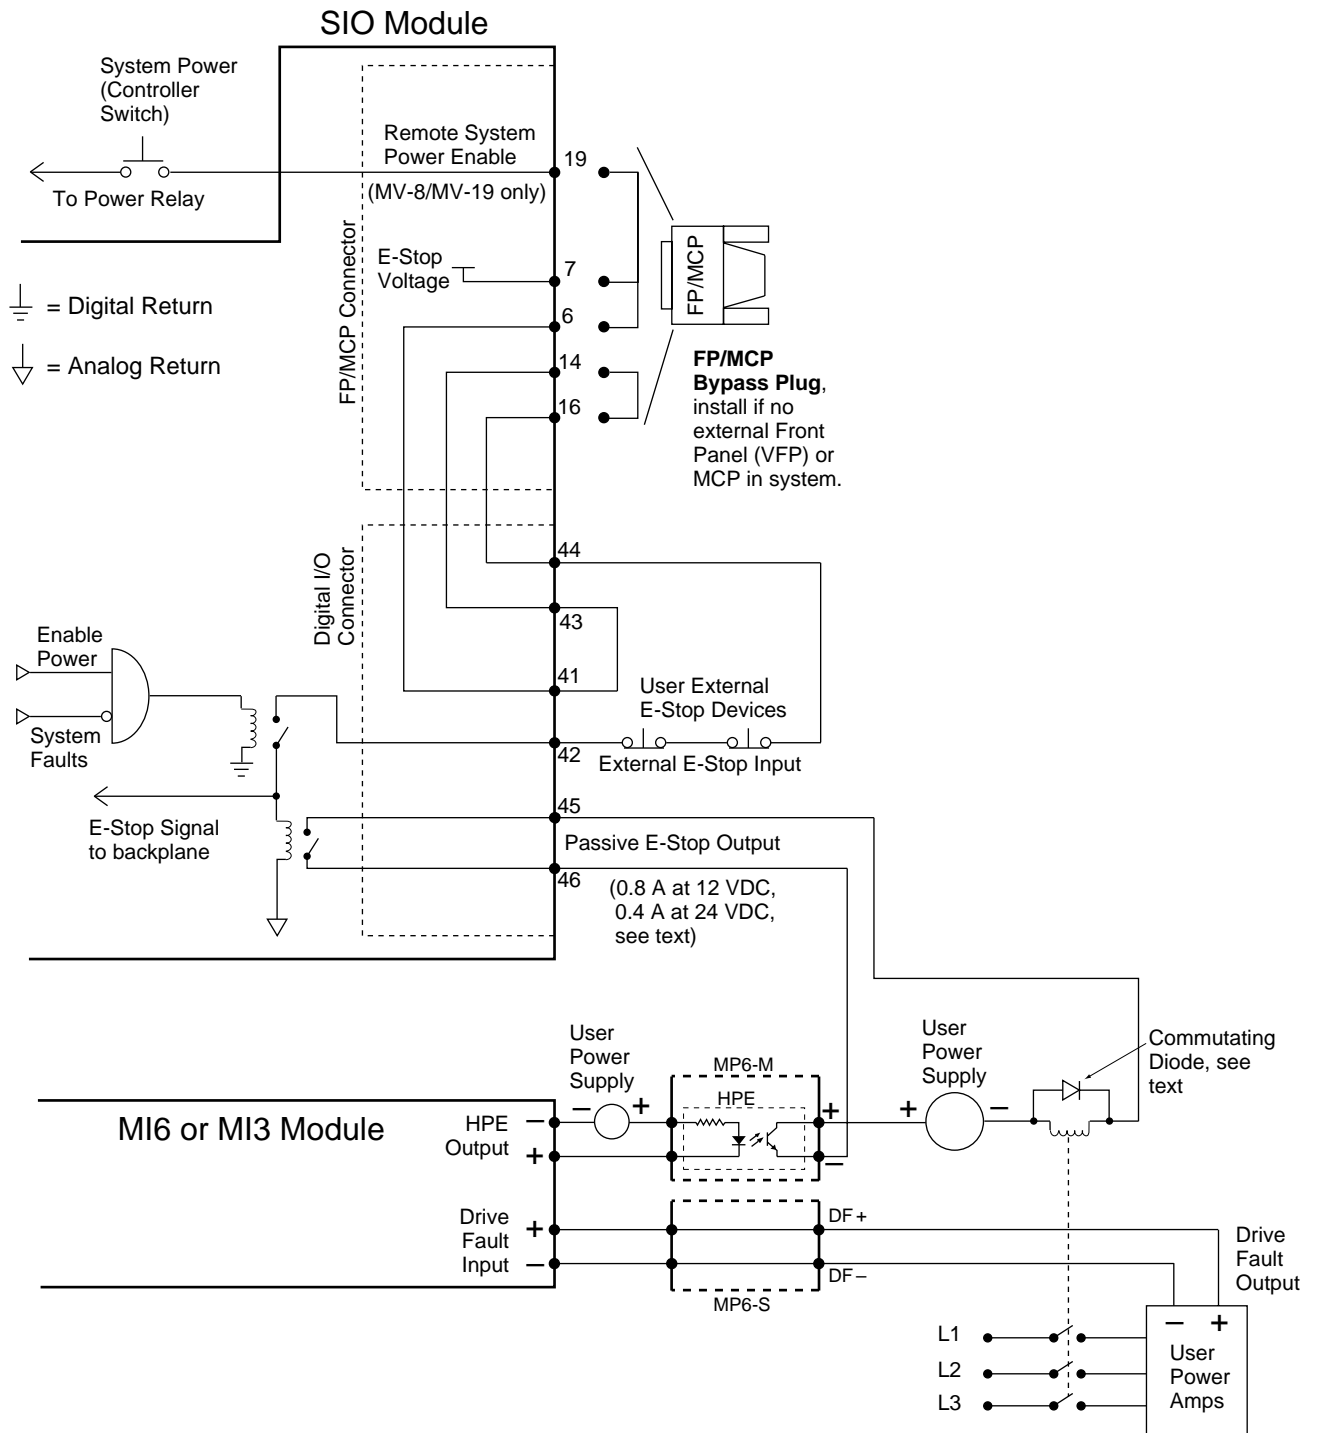
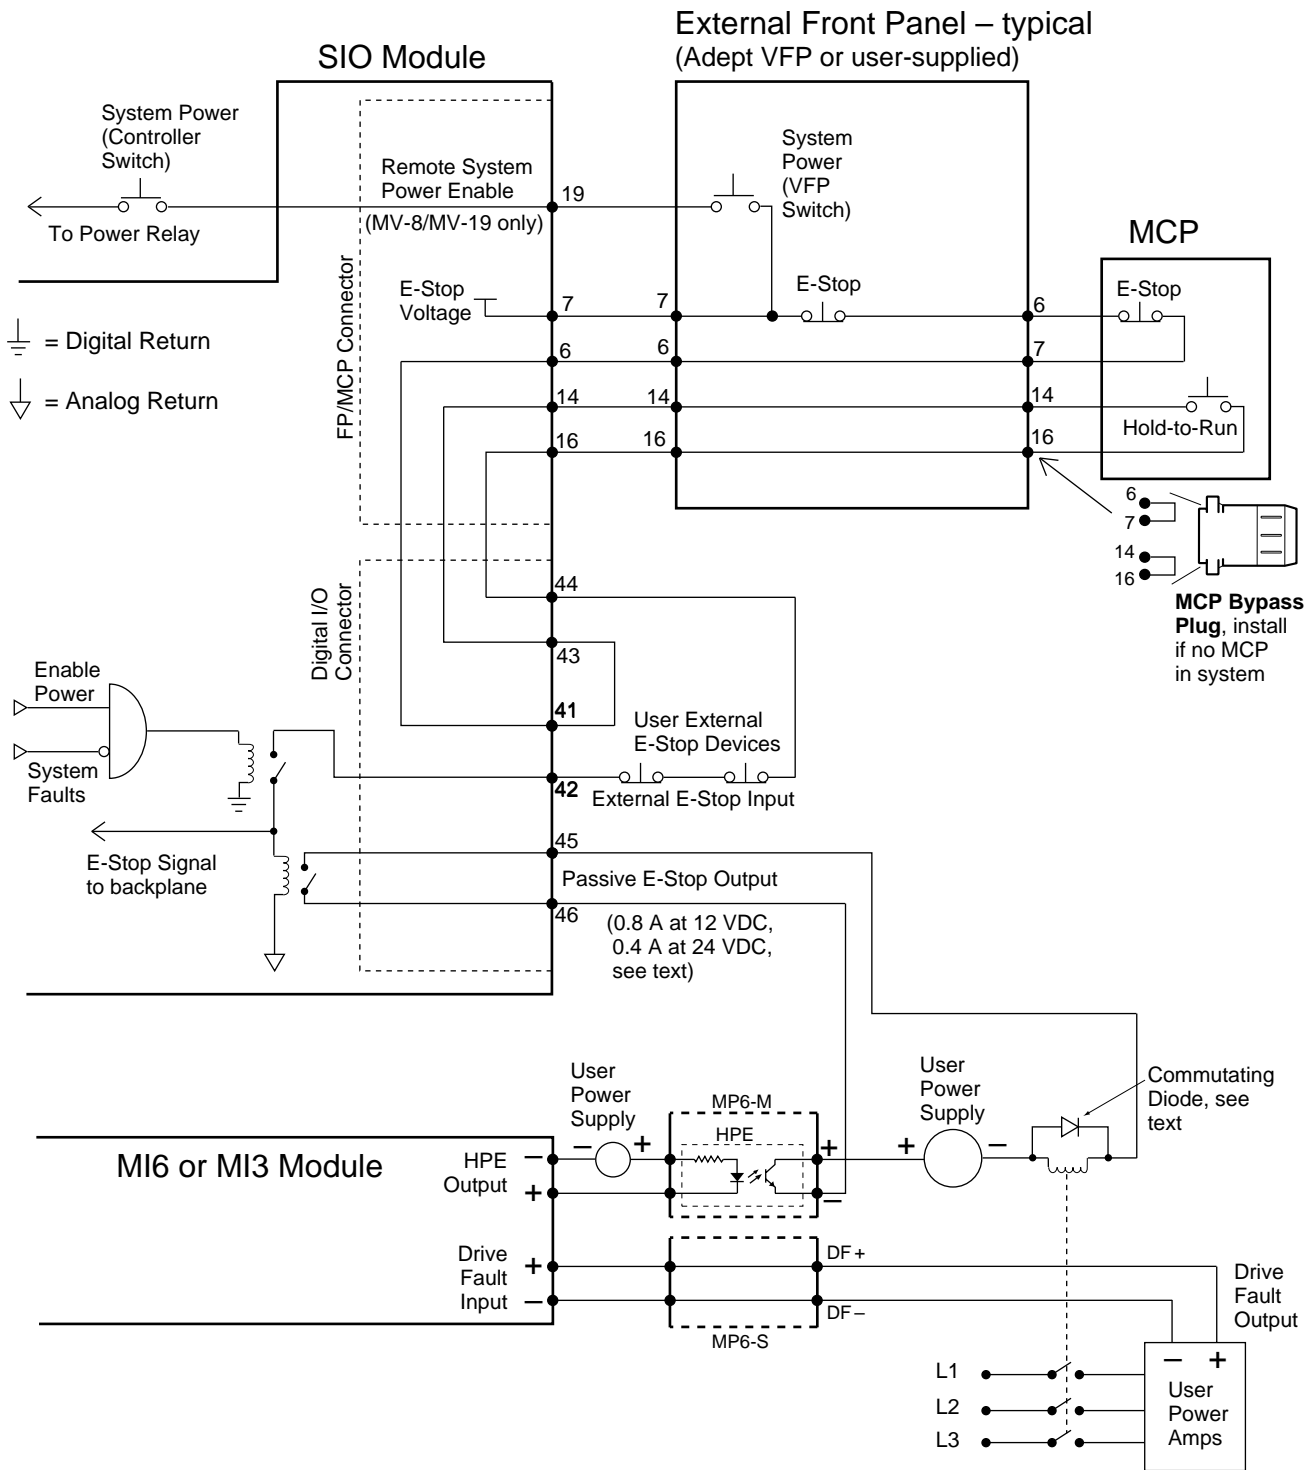
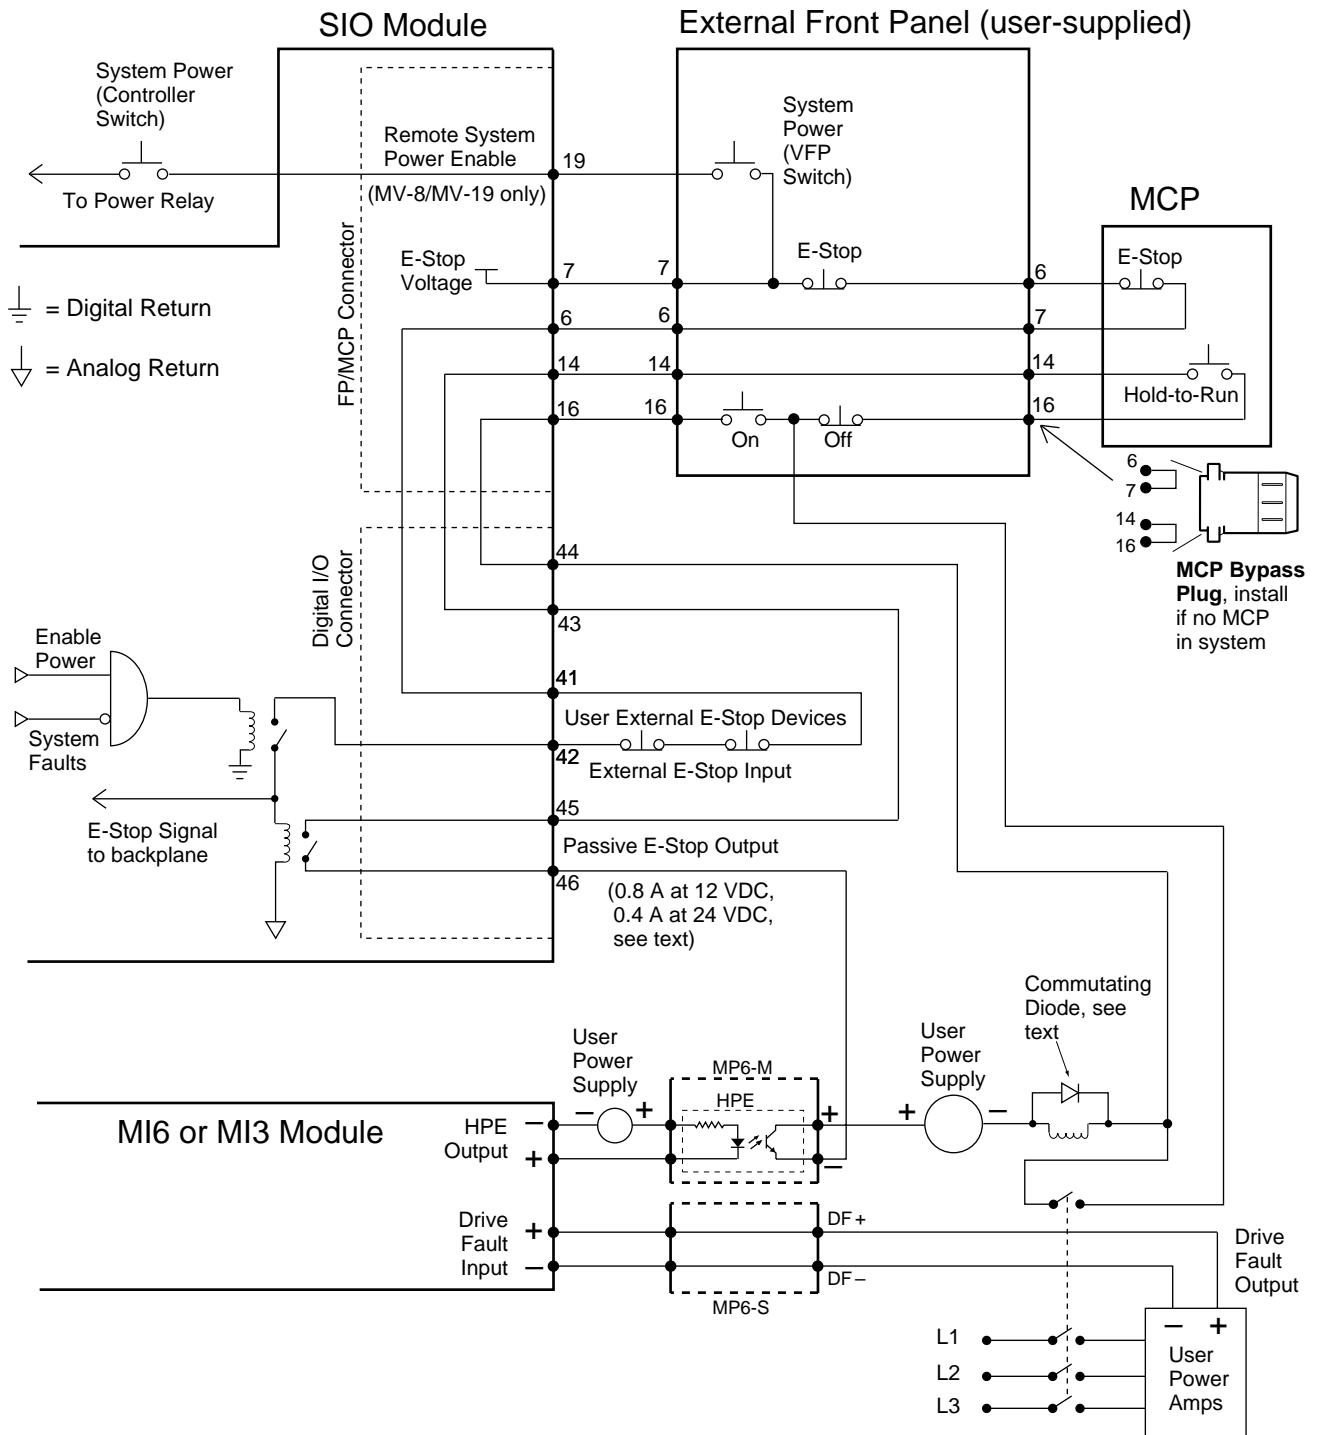

Figure 3-2. MI6 Motion E-Stop Diagram, No VFP
Figure 3-3. MI6 Motion E-Stop Diagram with VFP and/or MCP
Figure 3-4. MI6 Alternative Motion E-Stop Diagram with VFP and/or MCP
- Figure 3-2 shows a typical E-Stop circuit including the MI6 (or MI3) module, but with no external front panel (VFP) installed.
- Figure 3-3 shows a typical E-Stop circuit including the MI6 module with an external VFP installed (can be either an Adept VFP or a user-supplied front panel).
- Figure 3-4 is an alternative to Figure 3-3 with a special user-supplied front panel.
For many situations, the circuits in Figure 3-2 and Figure 3-3 will be appropriate. These two circuits include the hold-to-run button of the optional Manual Control Pendant (MCP) in the controller E-Stop circuit.
The third circuit, Figure 3-4, is more complex. It uses the MCP hold-to-run button signal to directly interrupt high power to the drive amplifiers, without operating the controller E-Stop input. This circuit also requires the operator to press a push-button to complete the power-on sequence. Some national regulations require this latter feature.